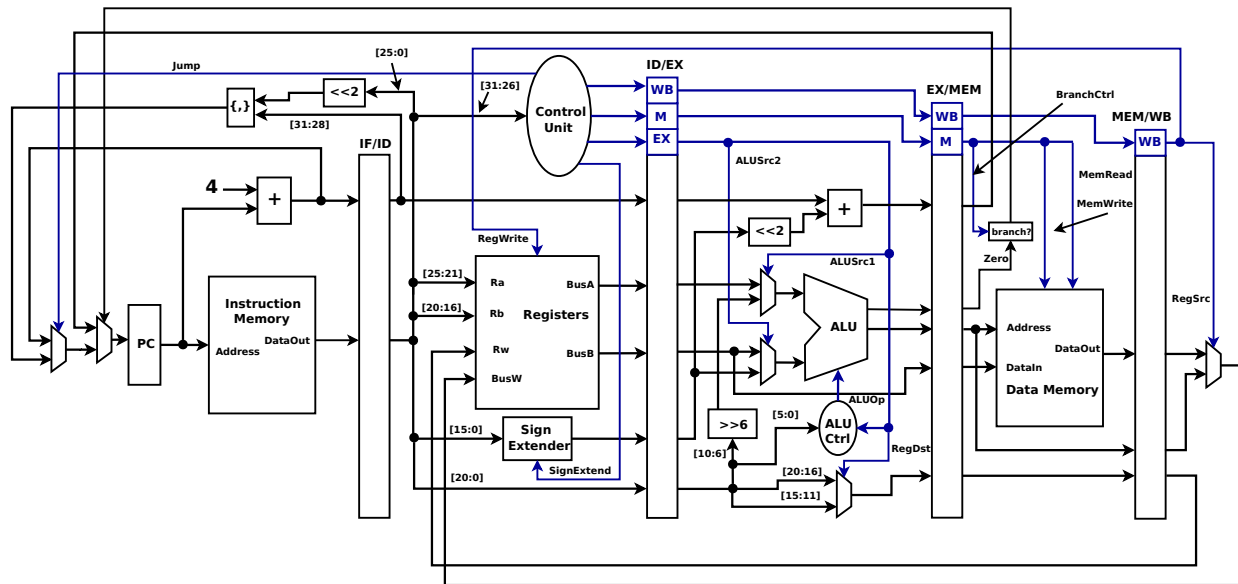

Figure 2: Simplified MIPS Pipeline
the register file. Thus, instruction decode includes the register read. The execute stage makes use of the ALU to compute a result for an R-type instruction or calculate an address for a load/store. The memory access stage is where the data memory is read or written to for a load or store respectively. For most R-type instructions, nothing is done in the memory stage. The write back stage is where data from the ALU or memory unit is stored into the register file for an R-type or load respectively. The MIPS pipeline is self-draining in the sense that control signals are generated in the early stages and propagate with the data. Likewise, all instructions must move through all five stages. Figure 2 provides a simplified view of the MIPS pipelined processor. The questions in this prelab will be based on this diagram
1. A data hazard exists in an in-order processor when an instruction reads from a register that is being written to by a previous instruction. This type of hazard is commonly referred to as a Read-After-Write (RAW) hazard. RAW data hazards must be handled properly in order to maintain correct code execution. One way to deal with data hazards is to stall the pipeline in the ID stage when the hazard is detected. For the data path shown in Figure 2, how many cycles would the pipeline need to be stalled when a RAW exists between two back-to-back R-type instructions? What about the case where an R-type instruction immediately follows a load? Likewise, can a branch instruction cause a RAW? What about a store instruction? Explain your answers for each of these!
5. What modification to Figure 2 would we have to make to handle the aforementioned hazards? Please provide some detail.